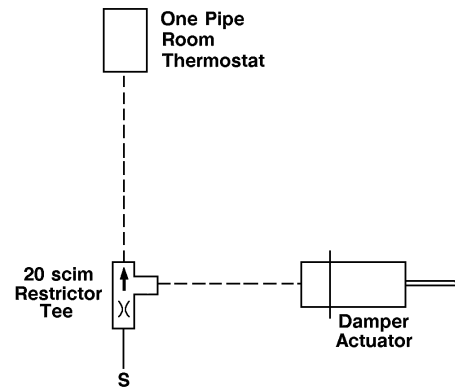

Figure 3.
- For 1-pipe room thermostats, 20 scim (5.5 ml/s), refer to Figure 3.